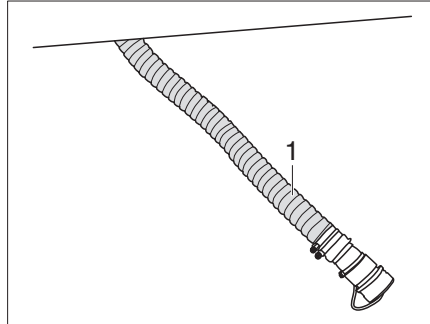

Fig. 387 Emptying the cassette of the macerator toilet
- Detach the drain hose (Fig. 387,1) below the vehicle and position it into the disposal station.
- Leave the drain hose (Fig. 387,1) in the disposal station.
- Store the drain hose (Fig. 387,1) under the vehicle.